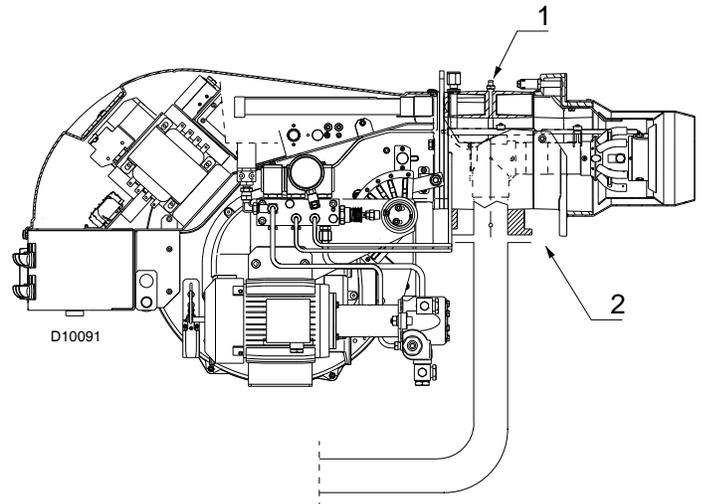

Fig. 25
Gas manifold pressure measured at test point 1)(Fig. 25), with:
- subtract the combustion chamber pressure from the gas pressure measured at test point 1)(Fig. 25).
- Gas pressure at test point 1)(Fig. 25) = 4.41" WC